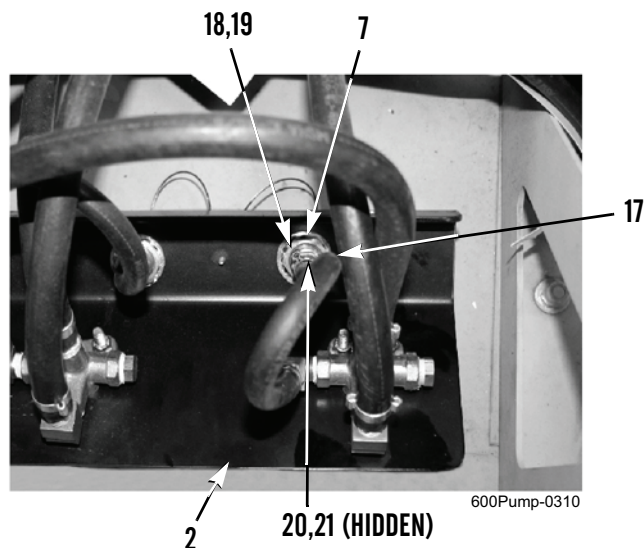

Figure 4. AUX Suction Inlet Fitting and Fuel Selector Panel.
10. Cut hose clamp (Figure 4, Item 20) from hose (Figure 4, Item 17) at AUX suction inlet fitting (Figure 4, Item 7). Discard hose clamp.
11. Hold hose (Figure 4, Item 17) and remove fitting (Figure 4, Item 21) and hose from AUX suction inlet fitting (Figure 4, Item 7).
12. Remove nut (Figure 4, Item 18), lockwasher (Figure 4, Item 19), and AUX suction inlet fitting (Figure 4, Item 7) from fuel selector panel (Figure 4, Item 2). Discard lockwasher.